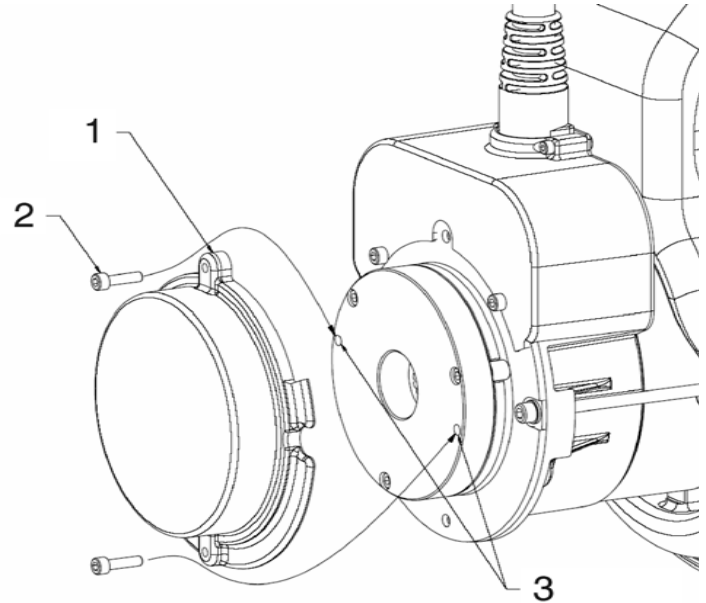

Figure 3-11. Manual Disengage
3. Remove the two **cover bolts (2)** and **brake cover (1)**.
4. Insert the **cover bolts (2)** into the two **disengage holes (3)** in the brake housing, see item 3 in Figure 3-11., Manual Disengage.
5. Tighten down the **cover bolts (2)** and the brake on that drive motor will disengage.
7. After towing is complete, chock wheels and remove **cover bolts (2)** from **disengage holes (3)**.
8. Reinstall **brake cover (1)**.